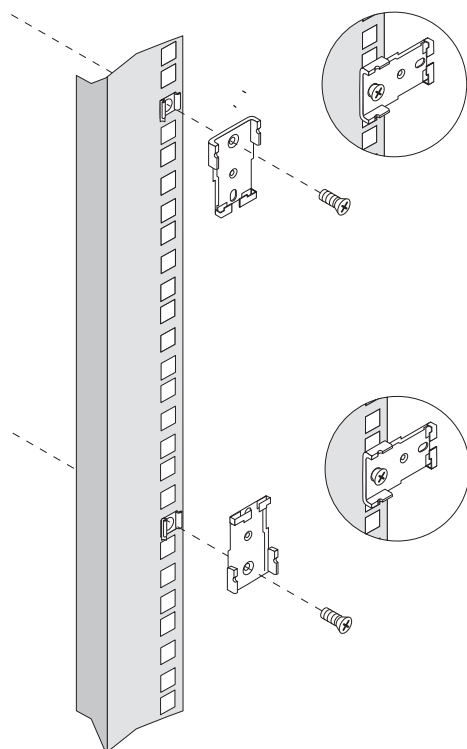

Figure 10. Attaching the Mounting Clip Feet
2. Locate the two mounting clip feet and two screws (supplied). Position one mounting clip foot at a cage nut and secure the mounting clip foot to the rail with a screw, as shown in Figure 10. Repeat for the second mounting clip. Tighten both screws.